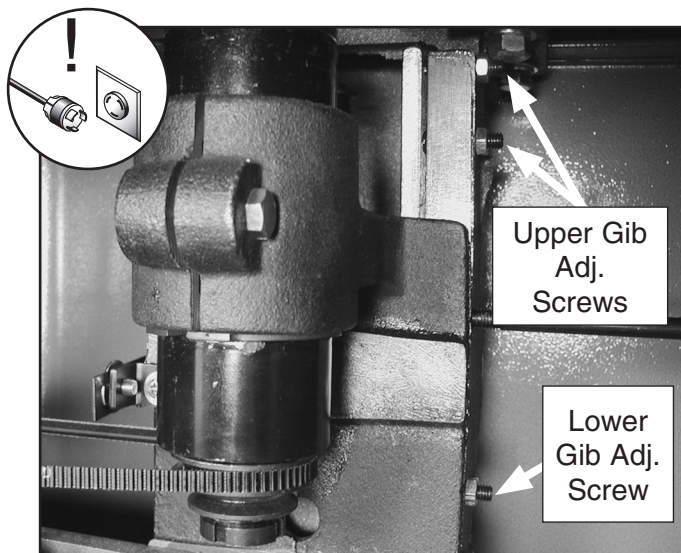

Figure 17. Gib adjustment screws.
3. If there is movement, adjust the gib against the elevation housing, using the adjustment screws at the top and bottom of the elevation housing. **Figure 17** shows the two upper gib adjustment screws and locknuts. One of the two lower adjustment screws is also visible in the photo.